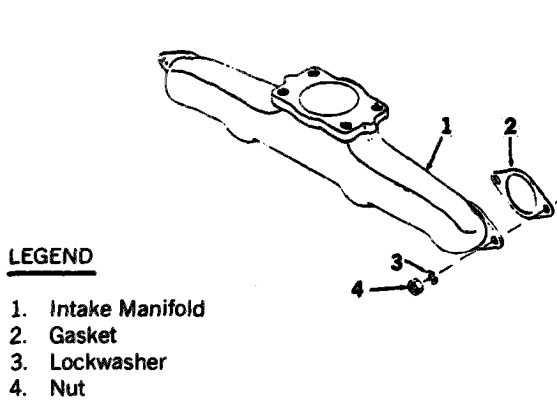

Figure 3-13. Intake Manifold
- b. Remove manifold attaching nuts (4, figure 3-13) and lockwashers (3).
- c. Remove intake manifold (1) and gaskets (2).
- a. Discard gaskets (2, figure 3-13).
- a. Install intake manifold (1, figure 3-13) with new gaskets (2).